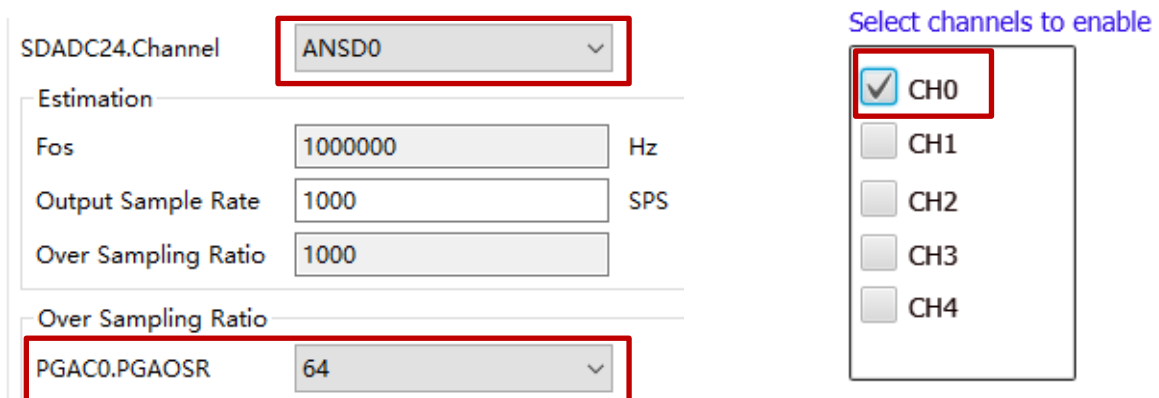

Figure 3-10 Filter (left) and SDADC24 (right) configuration
- Set PGACn.PGAOSR value as 64, 128 or 256 on [Filter] page (refer to the left on figure 3-10) and select single channel enabled (refer to the right on figure 3-10)
- Set PGACn.PGAOSR value as 64 on [Filter] page (refer to the left on figure 3-10) and select single channel enabled (refer to the right on figure 3-10)